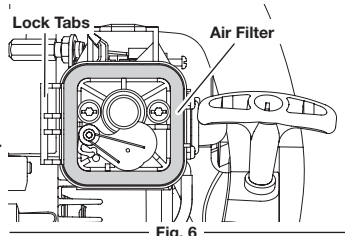

Fig. 6
- Replace air filter (Fig. 6).